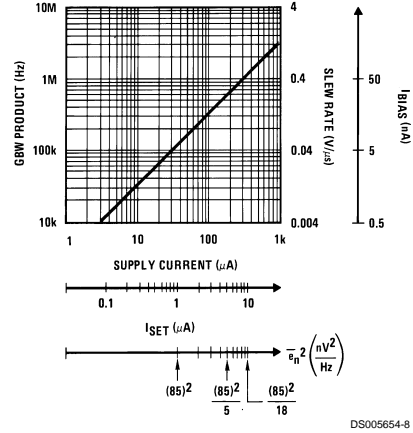

FIGURE 3. LM146 Typical Characteristics
**Isolation Between Amplifiers:** The LM146 die is isothermally laid out such that crosstalk between all 4 amplifiers is in excess of -105 dB (DC). Optimum isolation (better than -110 dB) occurs between amplifiers A and D, B and C; that is, if amplifier A dissipates power on its output stage, amplifier D is the one which will be affected the least, and vice versa. Same argument holds for amplifiers B and C.
**LM146 Typical Performance Summary:** The LM146 typical behaviour is shown in Figure 3. The device is fully predictable. As the set current,  $I_{SET}$ , increases, the speed, the bias current, and the supply current increase while the noise